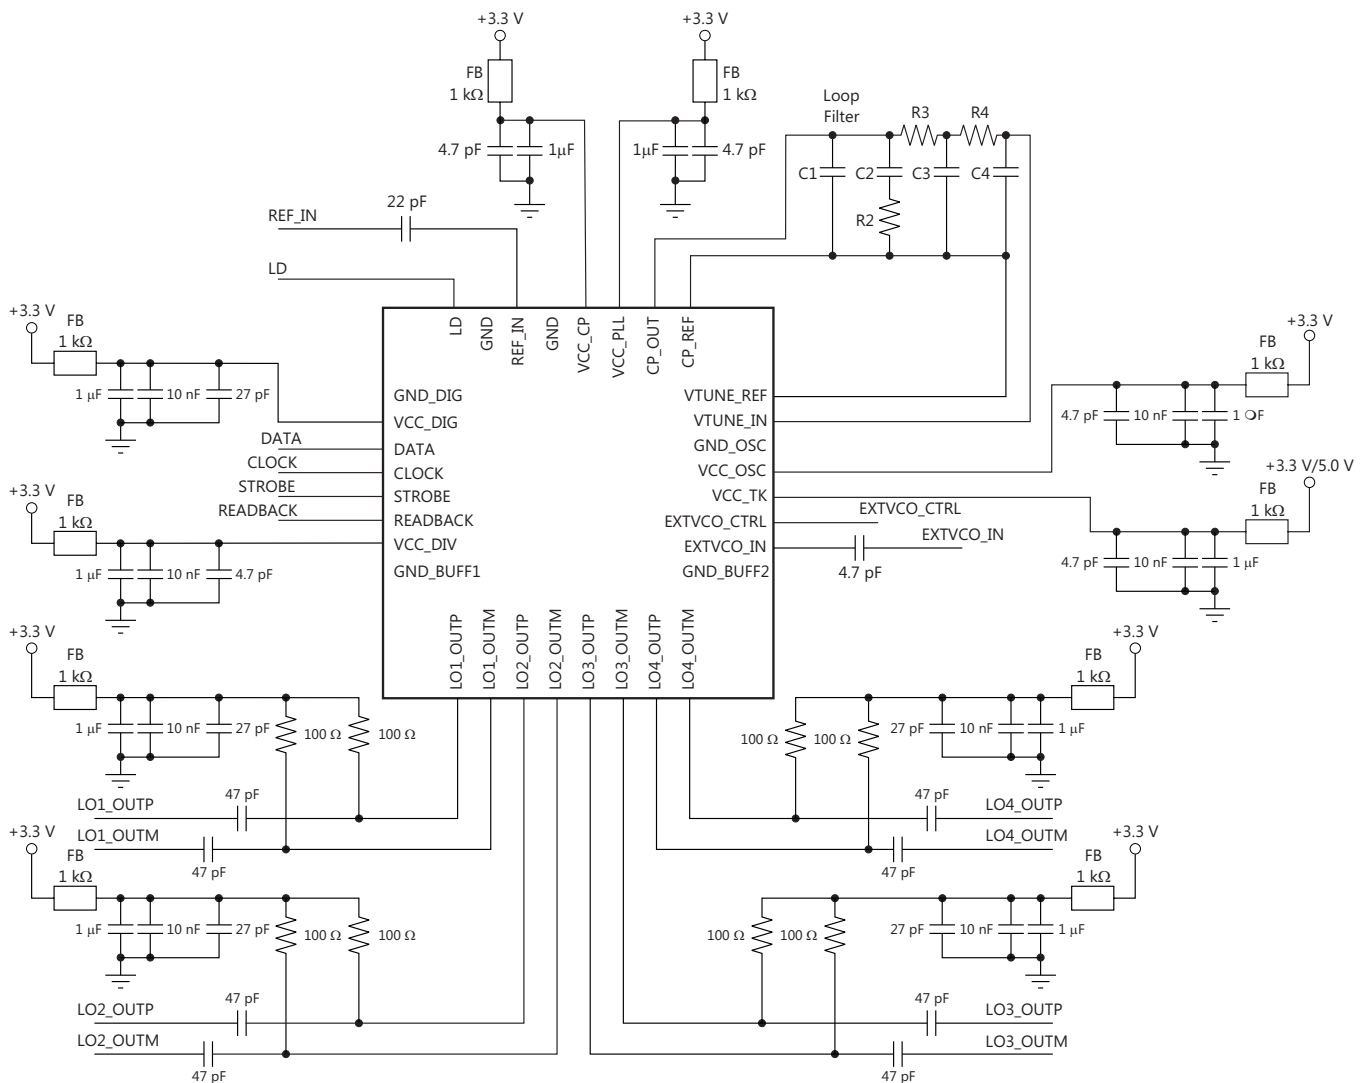

Figure 69. TRF3765 Application Schematic
Figure 69 illustrates a typical application schematic for the TRF3765. Table 21 lists the pin termination requirements and interfacing for the circuit.
- Changed VCC_OSC From: +3.3V/5.0V To: +3.3V, and VCC_TK From: +3.3V To: +3.3V/5.0V in Figure 69 42